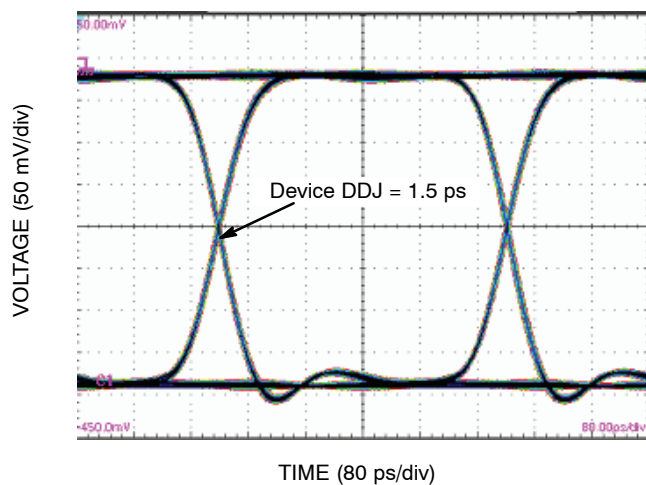

Figure 7. Typical Output Waveform at 2.488 Gb/s with PRBS $2^{23}-1$ ($V_{INPP} = 75$ mV; Input Signal DDJ = 12 ps)
12. Additive peak-to-peak data dependent jitter with NRZ input data signal, PRBS 2²³-1 and K28.7 pattern. See Figures 7, 8, 9, 10, 11 and 12.